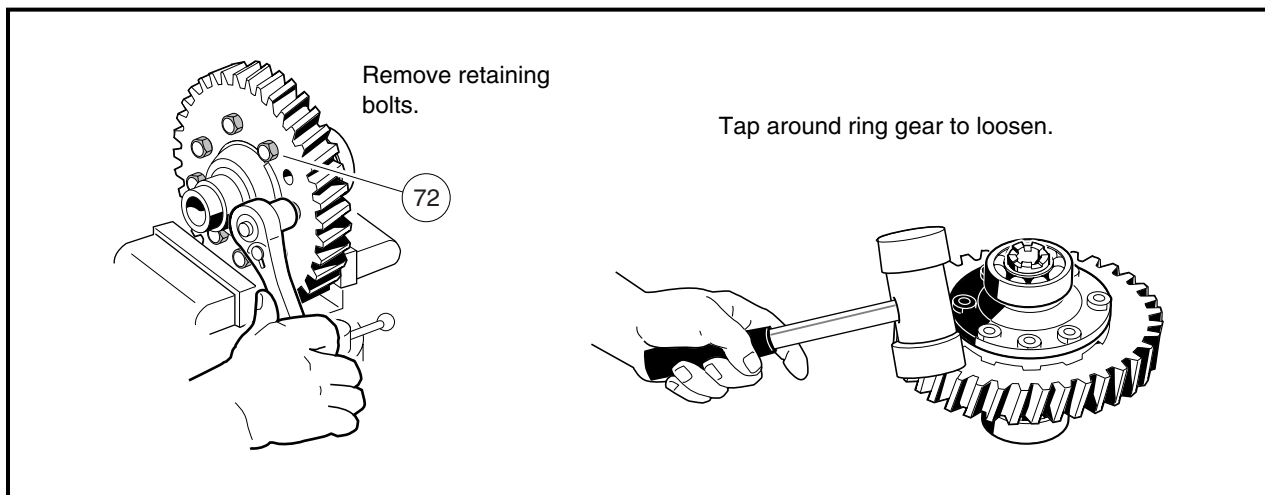

Figure 6-15 Remove Ring Gear
1. Remove eight ring gear retaining bolts (72) (**Figure 6-15, Page 6-8**) and remove the ring gear from the assembly. It may be necessary to tap the ring gear off with a plastic or rubber mallet. **See following NOTE.**